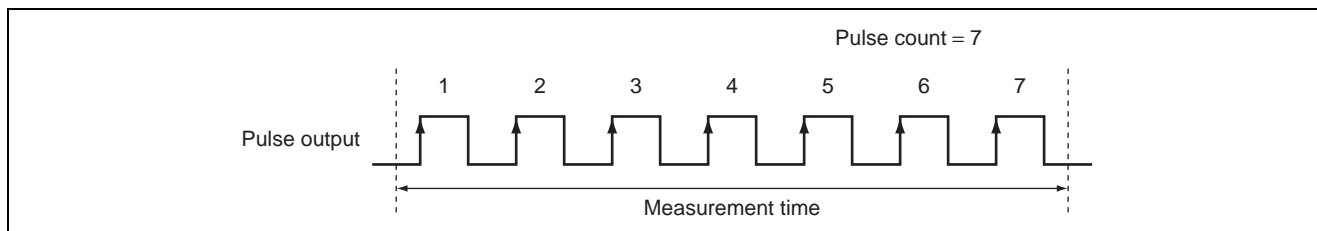

Figure 1 Pulse Output Timing
1. As shown in figure 1, this sample task outputs as many 50% duty pulses as required.